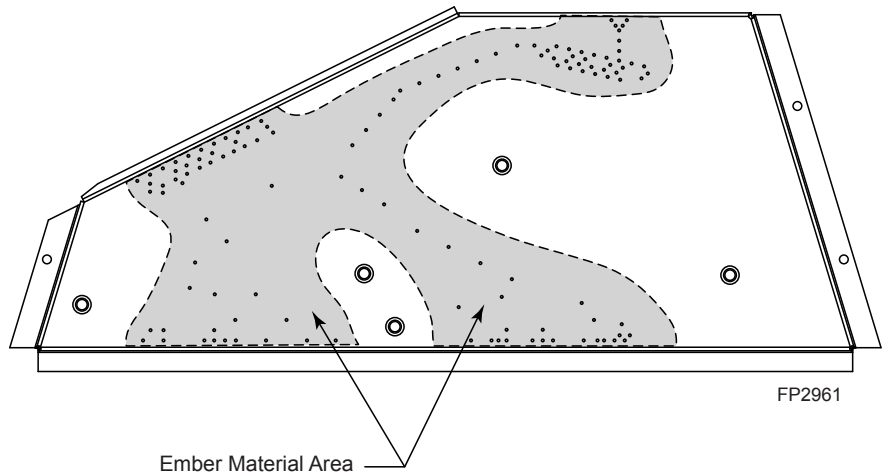

Figure 15 - Ember Material Area
1. Break up rock wool (ember material) into small fluffy pieces. Place evenly as shown. Do not exceed 1" layer covering all round burner ports. Refer to Figures 15 and 16.